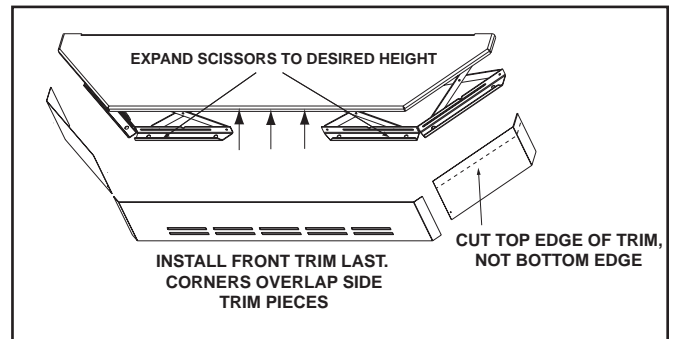

Figure 17.2
2. Expand scissors to desired height. Tighten screws to hold in place using Phillips Head screwdriver. **Figure 17.2.**
3. Measure front and side trims to required height to cover scissors and mark pieces for cutting. Cut excess material from **top** of trim’s edge, not bottom. This edge will be sharp; wear gloves to prevent injury to your hands. **Figure 17.2.**